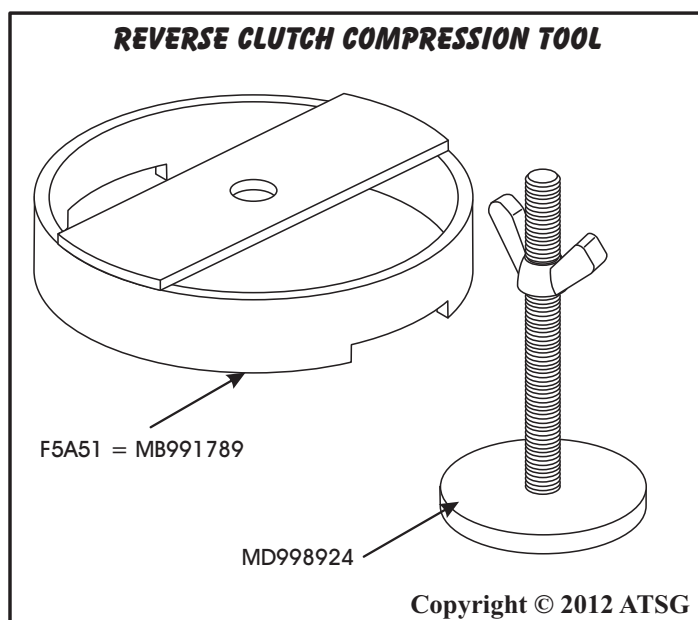

Figure 132
30. Install the clutch compressing tools that are shown in Figure 132.